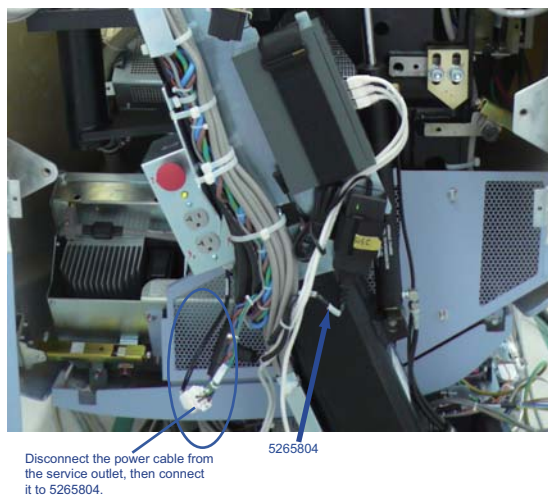

Figure 2-13 LAN Switch Connection
- 6.) Connect cables 5193967, 5193969-10 and 5193969-2 to Port 1, 2 and 3 of Lan Switch according to their labels. Connect cable 5265804 to Service Outlet Power and Lan Switch adapter according to its labels as shown in Figure 2-13.